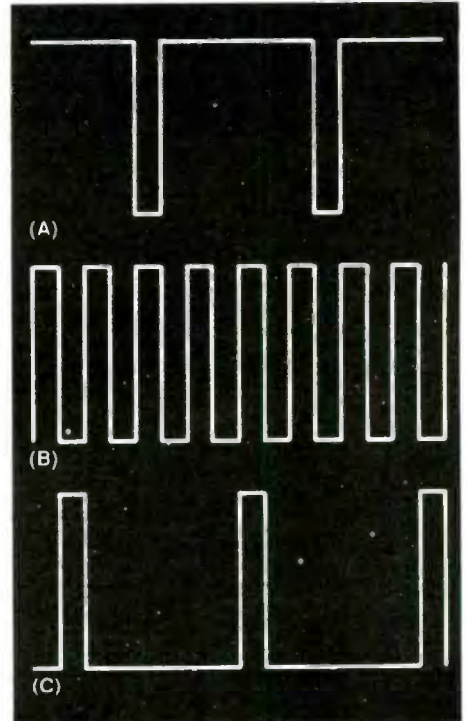

Fig. 5. Output waveforms for three different settings of the potentiometer (see text).
Shown in Fig. 5 are three extremes of  $V_a$ : (A)  $V_a = +V$ , (B)  $V_a = 0$  and (C)  $V_a = -V$ . These traces represent very long, equal and very short duty cycles, respectively.